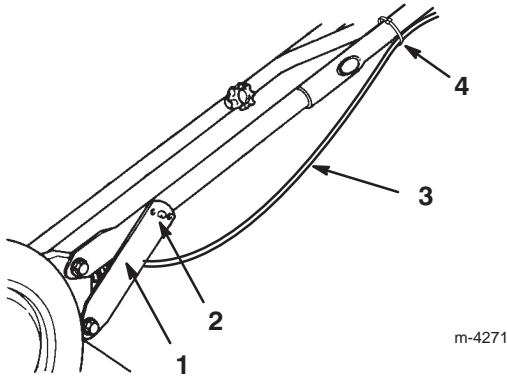

Figure 3
5. Move the handle support brackets slightly outward so that they will not be in the way when you move the handle backward into the operating position (Fig. 3).
7. Move the support brackets inward while you position the handle studs into the center hole of the brackets (Fig. 3).
8. Secure the cable to the upper handle section with a cable tie (Fig. 3).